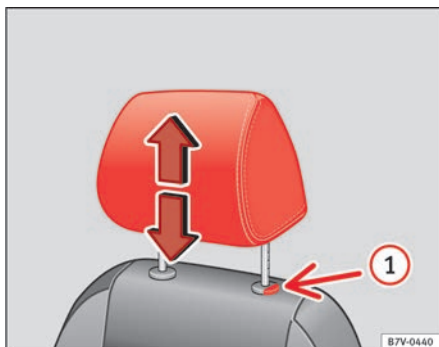
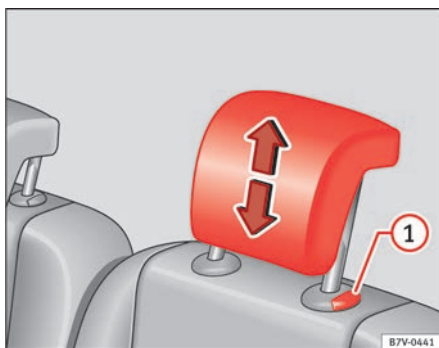

Fig. 84 Adjusting the front head restraints.
Fig. 85 Adjusting the rear head restraints.
- Push the head restraint up or down in the direction of the arrow with the button pressed ⇒ fig. 84 ① or ⇒ fig. 85 ① ⇒ ⚠.